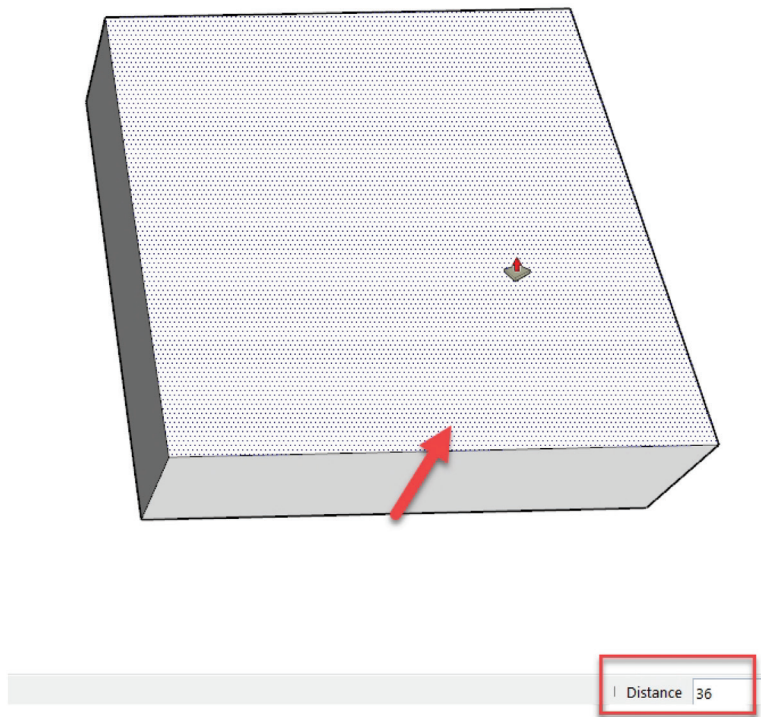

Figure 4.3 Push/Pull.
6. Hover your cursor, which will now display the push/pull icon, over the face, left-click on the face and move your cursor up to start “pulling” the face upwards, as shown in Figure 4.3.